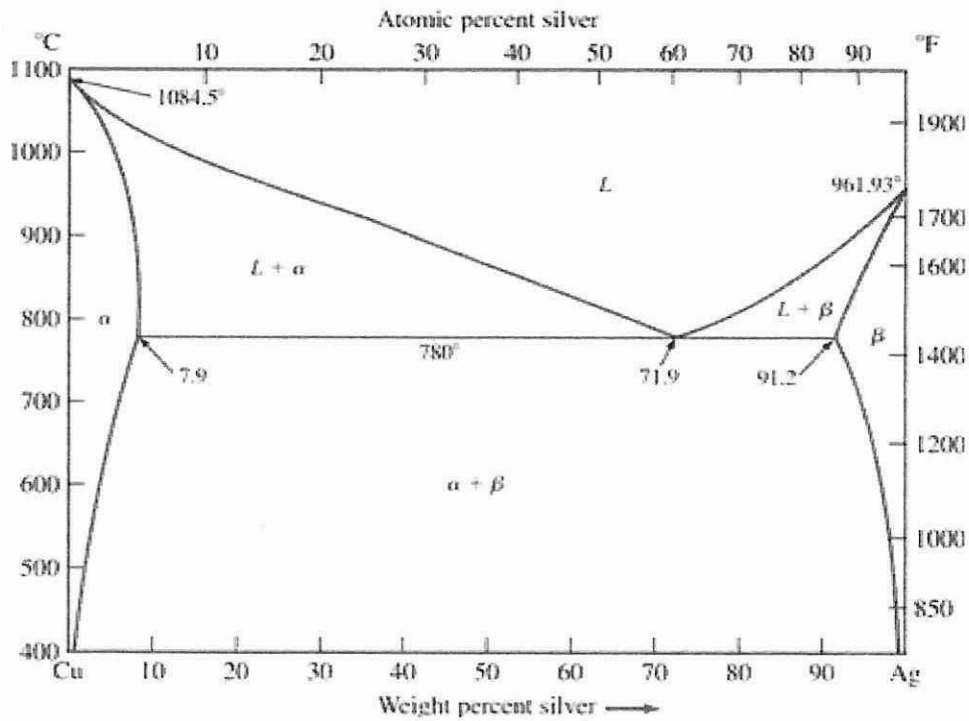

Figure Q5.1 Cu-Ag Phase Diagram
- Q5** (a) Consider the binary eutectic copper-silver phase diagram in **Fig. Q5.1**. Make phase analyses of an 88 wt % Ag–12 wt % Cu alloy at the following temperatures. In the phase analyses, include the phases present, the chemical composition, the amount of each phase and sketch the microstructure.